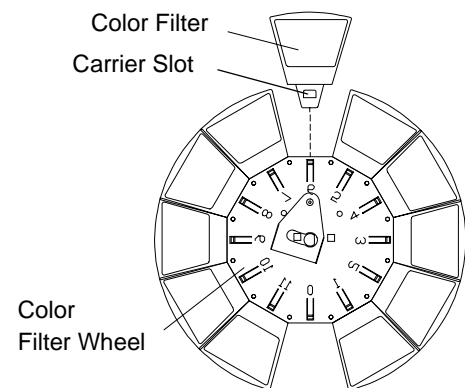

Figure A-4: Filter Installation
- Step 5. Noting proper orientation of carrier slot, insert new color filter into position and push fully into place. See **Figure A-4**.